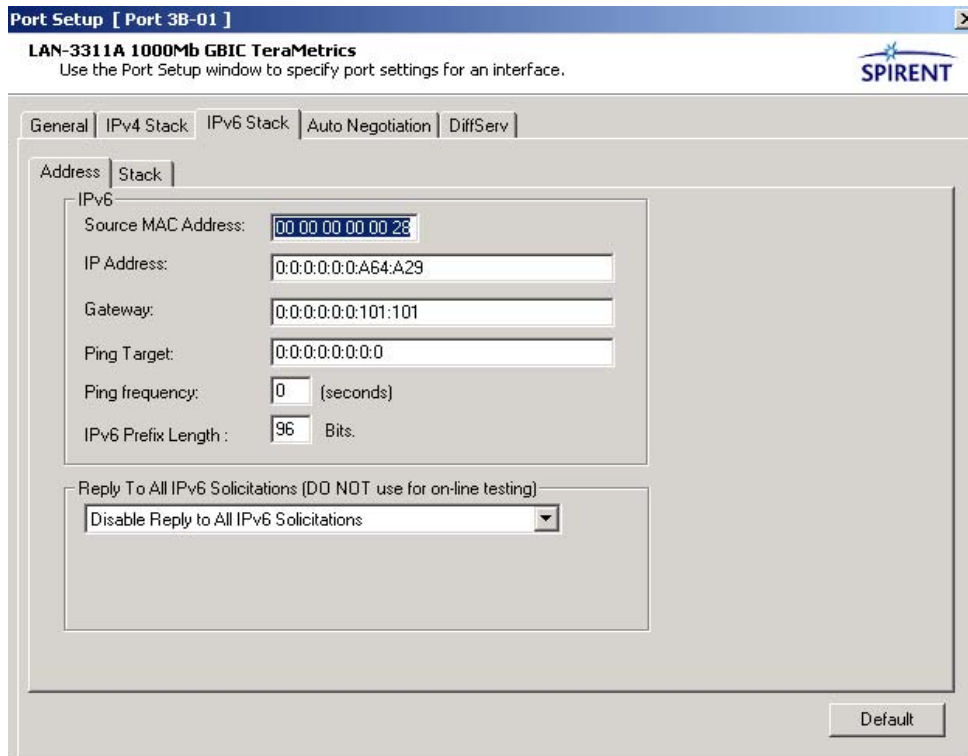

Figure 8-36. LAN-3311A Port Setup Window
- 1 Select the **IPv6 Stack** tab, and then select the **Address** tab. (See Figure 8-36.)